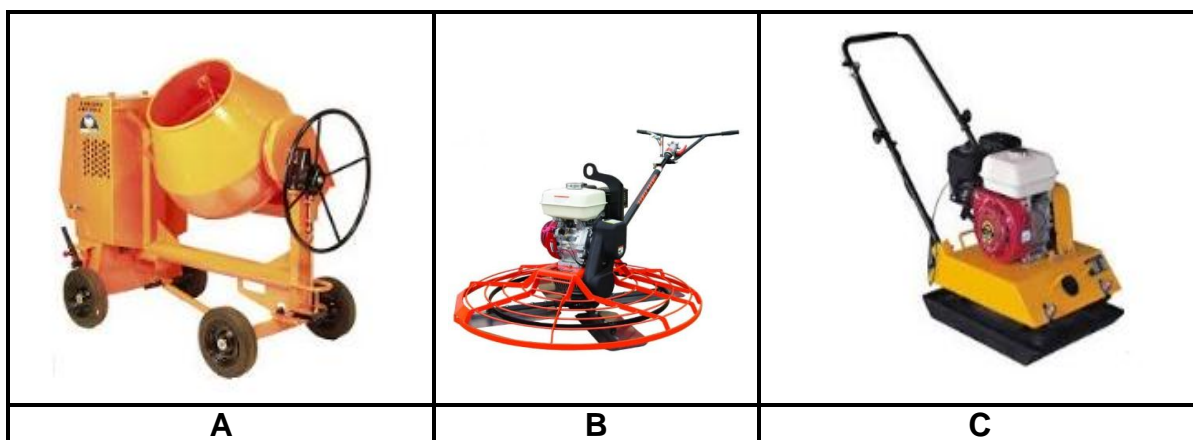

FIGURE 4.7
- 4.7 Tools and equipment are used extensively on a building site. Study the illustrations shown in FIGURE 4.7 below and answer the questions that follow.
- 4.7.1 Name THREE types of personal protective equipment that should be worn while using the equipment in FIGURE 4.7. (3)